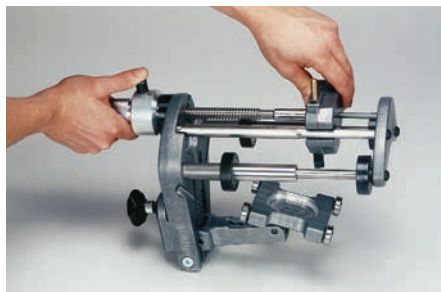

fig. 4
- Adjust the blade housing (7) to the required scraping length: pull out telescopic rods up to the end position. Press the release button (9) on roller handle and roughly adjust the blade housing to the relevant dimensioning marking (fig. 4).
- Turn it steadily until the pipe surface is scraped up to the mark (Fig. 4).